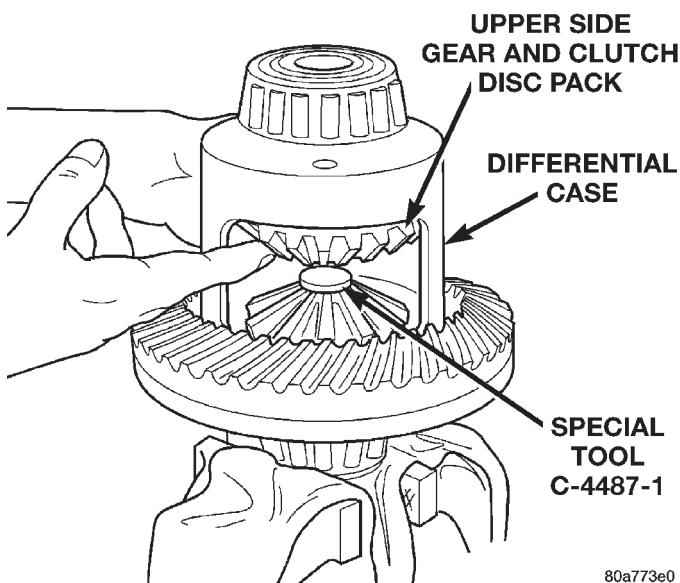

Fig. 56 Upper Side Gear & Clutch Disc Pack Installation
(4) Position the differential case on Side Gear Holding Tool 6963-A.
(5) Install lubricated Step Plate C-4487-1 on side gear (Fig. 56).
(6) Install the upper side gear and clutch disc pack (Fig. 56).
(7) Hold assembly in position. Insert Threaded Adapter C-4487-3 into top side gear.
(8) Insert Forcing Screw C-4487-2.
(9) Tighten forcing screw tool to slightly compress clutch discs.
(10) Place pinion gears in position in side gears and verify that the pinion mate shaft hole is aligned.
(11) Rotate case with Turning Bar C-4487-4 until the pinion mate shaft holes in pinion gears align with holes in case. It may be necessary to slightly tighten the forcing screw in order to install the pinion gears.
(12) Tighten forcing screw to 122 N·m (90 ft. lbs.) to compress the Belleville springs.
(13) Lubricate and install thrust washers behind pinion gears and align washers with a small screw driver. Insert mate shaft into each pinion gear to verify alignment.
(14) Remove forcing screw, threaded adapter, and step plate.
(15) Install pinion gear mate shaft and align holes in shaft and case.
(16) Install the pinion mate shaft lock screw finger tight to hold shaft during differential installation.